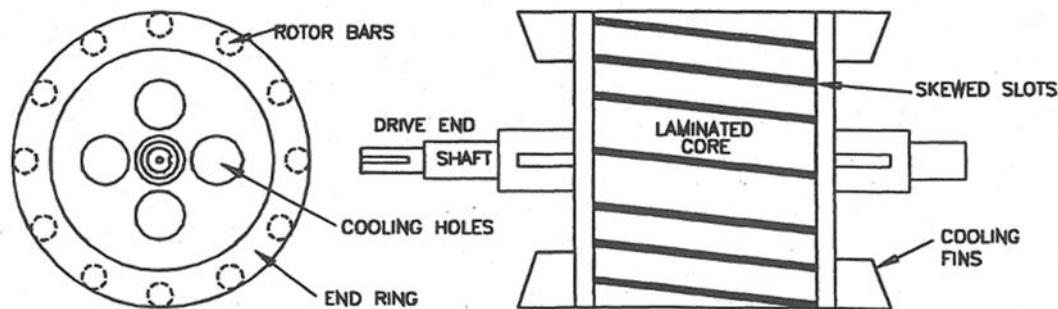

Figure 3 - Typical squirrel cage rotor construction
18. The typical squirrel cage rotor consists of comparatively large bars of conducting material (usually aluminium) cast into the slots in the rotor and joined at each end of the rotor with conducting 'end rings'. No insulation is necessary between the rotor bars and the laminated steel rotor core because the rotor winding has a much lower resistance than the rotor core. An outline of the construction of a typical squirrel cage rotor is shown in Figure 3, but you should bear in mind that rotor bars and end rings can have other shapes and they can be made from other materials (such as copper).